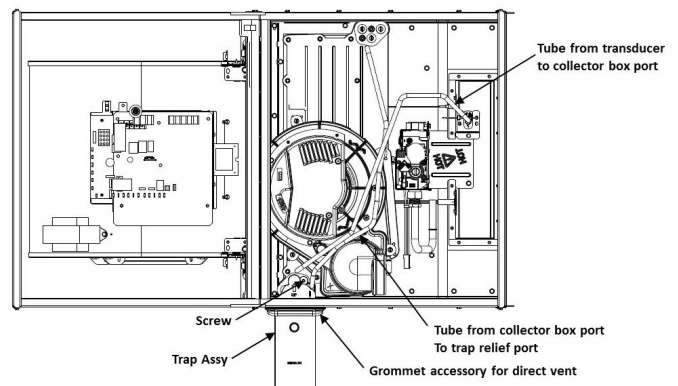

Fig. 20 – Horizontal Right - Trap Assembly Aid
1. Accessory Horizontal Installation Kit (trap grommet) is required for all direct-vent horizontal installations (only). The kit contains a rubber casing grommet designed to seal between the furnace casing and the condensate trap, see Fig. 20.
5. Attach trap to collector box using provided machine screw, see Fig 20.
- b. Remove the factory-installed cap from the relief port on the trap and run tube from port on the collector box corner opposite of the trap to the relief port on the trap, see Fig. 20. If the tube is too long, cut any extra length from the tube. In the installed position, the transducer tubing should be in the lower pressure port and the relief tubing should be in the higher port.